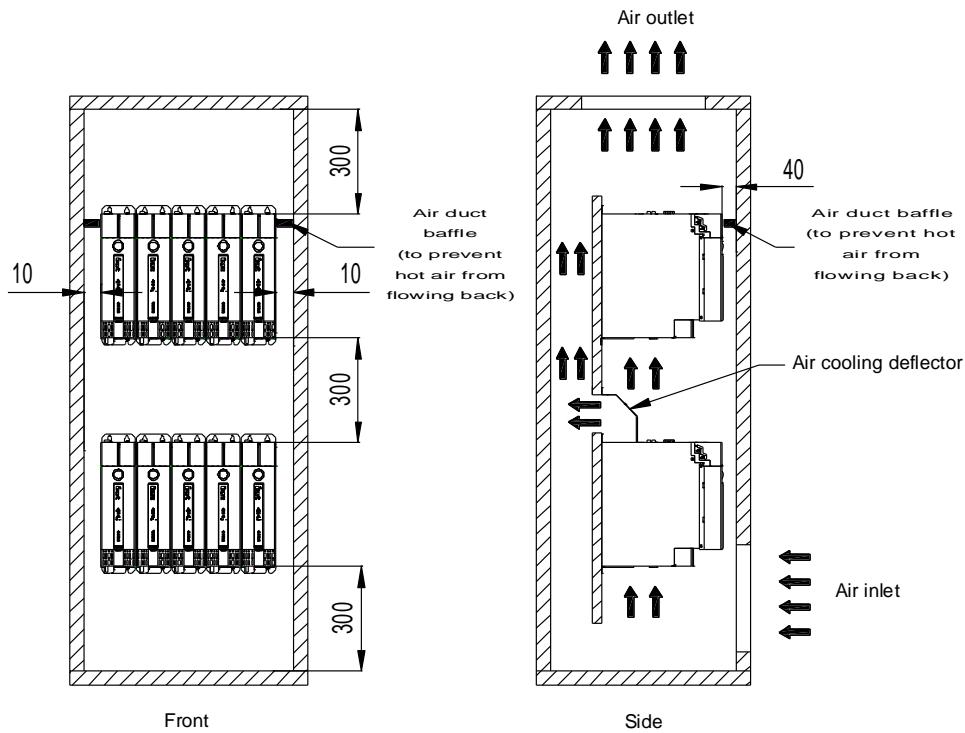

Figure 4-3 Multi-unit parallel installation clearances (the preceding sizes are the minimum, unit: mm)
- ◇ When the units need to be installed in two rows, reserve certain space around the units to ensure good heat dissipation. For details, see Figure 4-3.
- ◇ When units need to be installed in two rows, the cooling deflector must be installed. For details, see Figure 4-3.